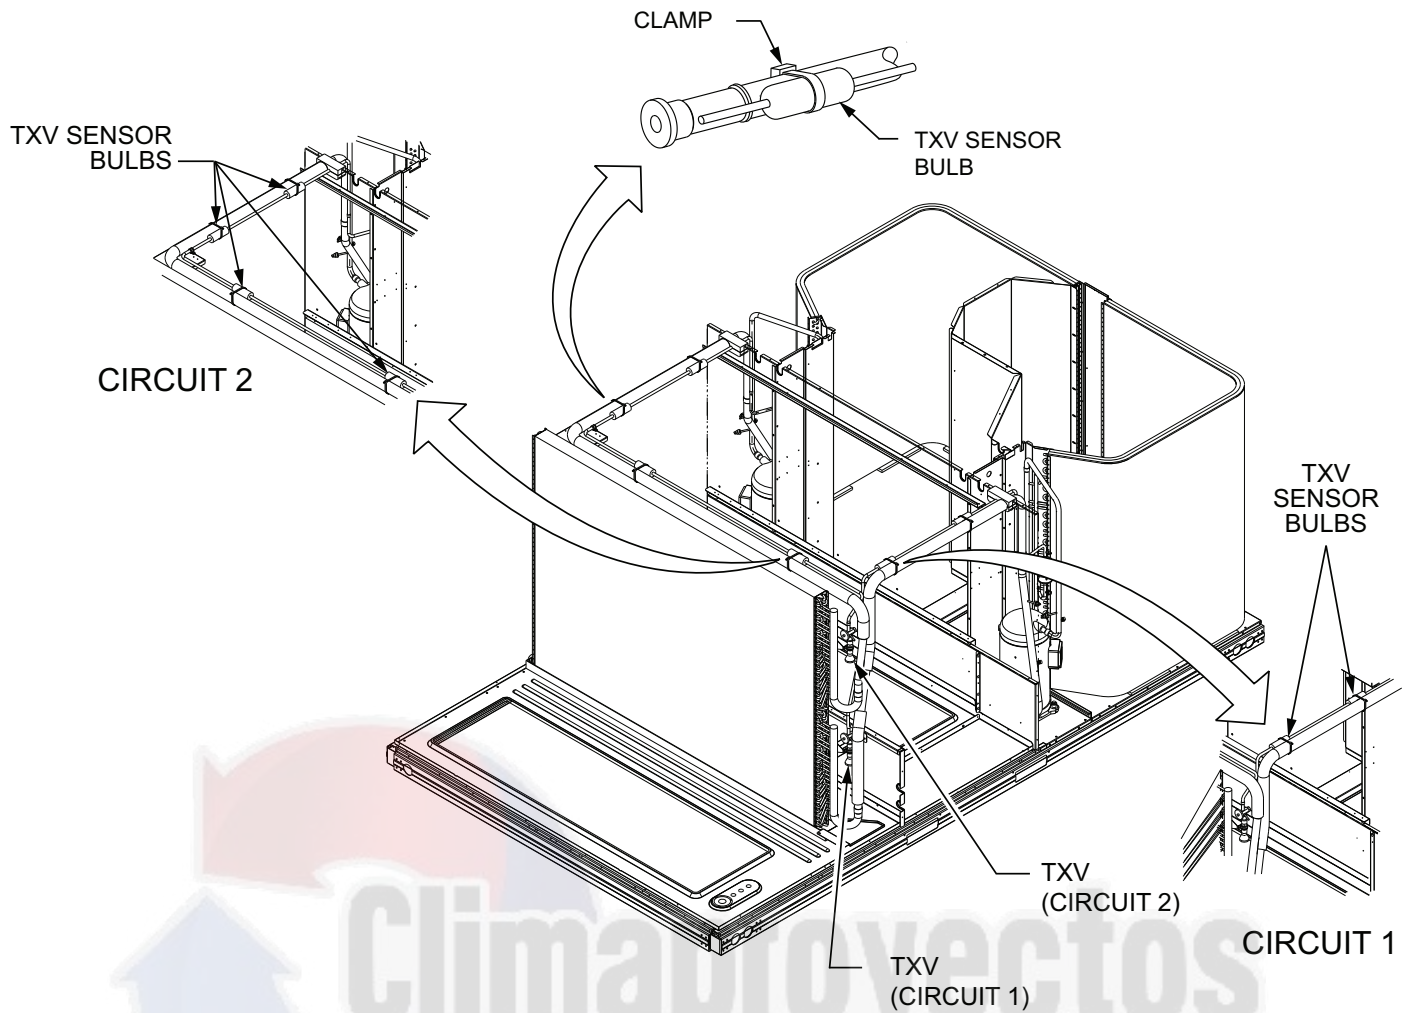

Fig. 22 — TXV Sensor Bulb Locations
10. Attach the TXV bulb in the same location as the original (in the sensing bulb indent), wrap the bulb in protective insulation and secure using the supplied bulb clamp. See Fig. 22 and 23.